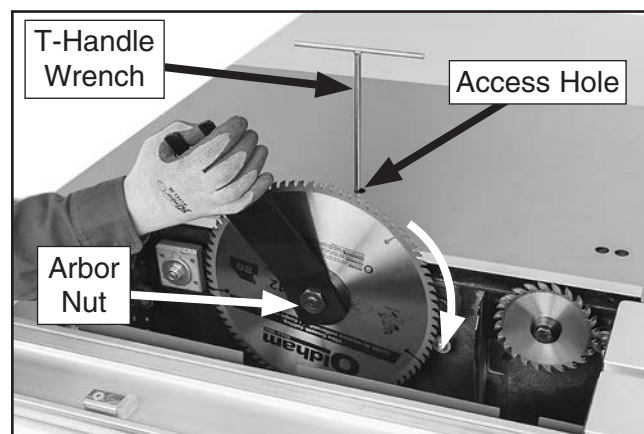

Figure 31. Loosening main blade arbor bolt.
22. Insert T-handle wrench into access hole shown in **Figure 31**.